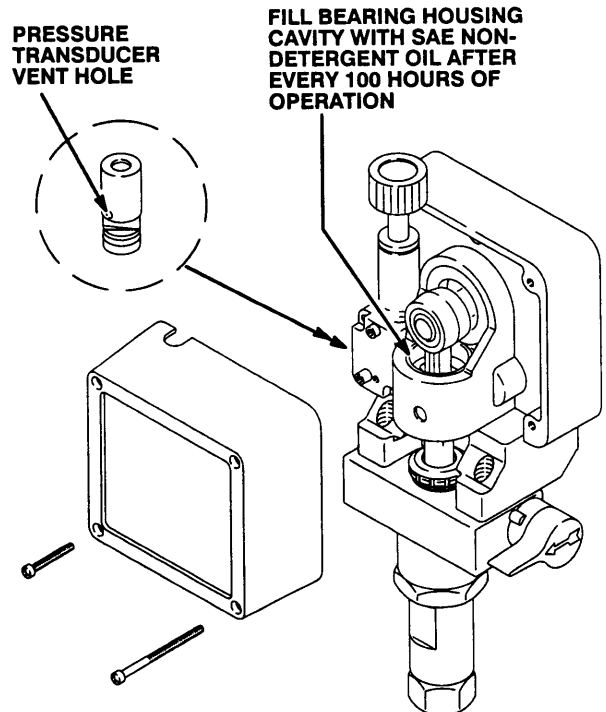

Fig 12-2
4. **Periodically clean paint residue from the pressure transducer vent hole area.** See Fig 12-2. Replace the transducer when leakage is excessive. See page 27.
5. **Lubricate the bearing housing** after every 100 hours of operation. Remove the front cover. Fill the bearing housing cavity with SAE 10 non-detergent oil. See Fig 12-2.